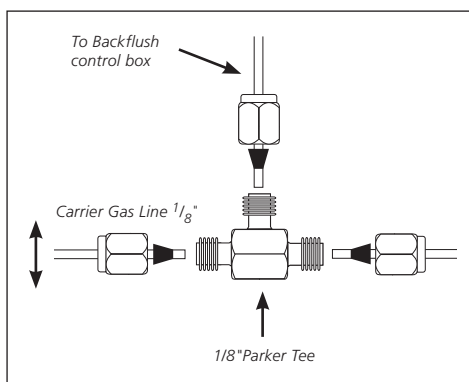

Figure 1.
4. Connect the 1/8" Parker™ tee to the carrier gas line as shown in Figure 1 using the nuts and ferrules provided.